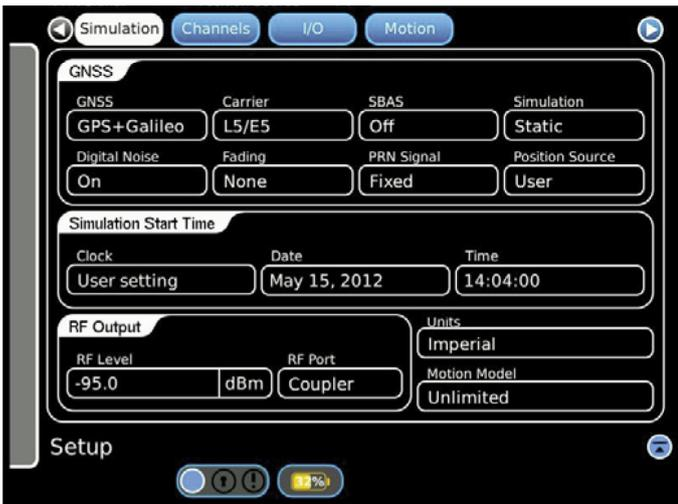

Figure 6
- On GPSG-1000 #2 Setup Screen in the GNSS fields, set GNSS and Carrier to the other required carrier type and frequency for your multi channel GPS LRU. See Figure 6.